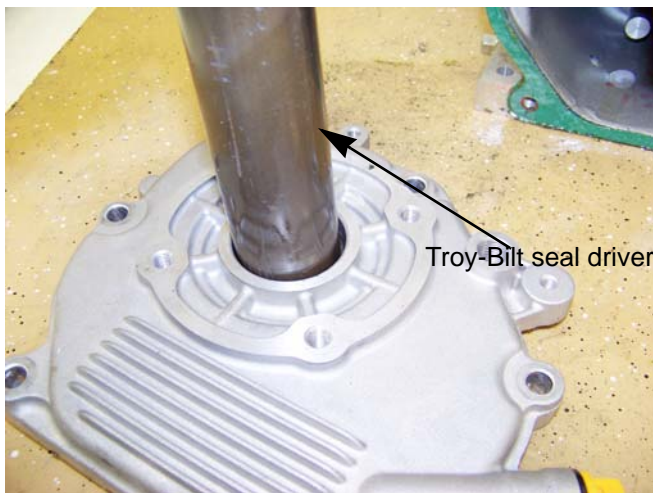

Figure 10.16
- 2b. Install a new seal in the crank case cover. See Figure 10.16.